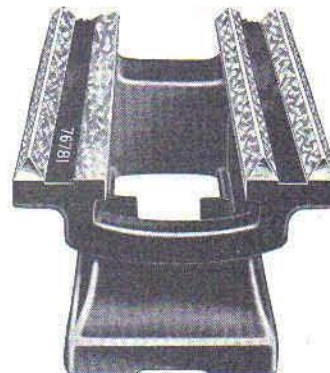

Fig. 2. Serial Number of Lathe.
- (1) Serial number of the lathe. (See Fig. 2.)
- (2) The correct name and number of the part wanted.
- (3) If the part wanted cannot be located in this parts list, send a sketch of the part, showing the principal dimensions.